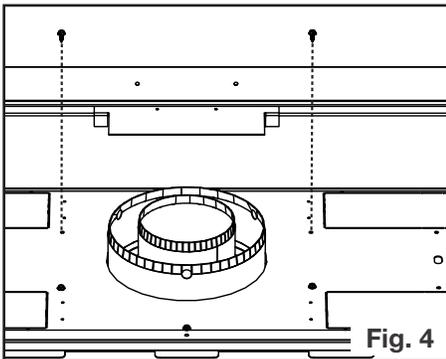

Fig. 4
- 4. Roll the vent sleeve as shown and ensure to clip the ends together (Fig. 4).
4. Unscrew the fasteners as shown in Figure 4. DO NOT DISCARD FASTENERS.